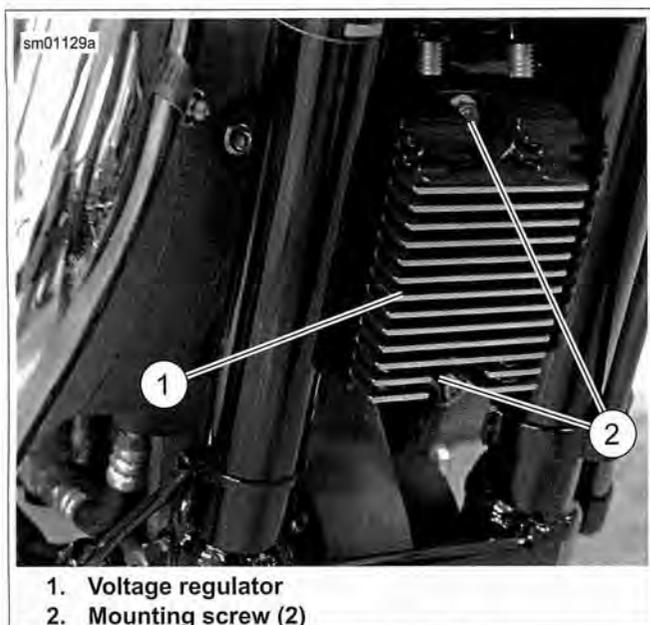

Figure 6-3. Voltage Regulator Location
4. See Figure 6-3. Remove screws (2) from locations at top and bottom of voltage regulator. Remove regulator from vehicle, carefully threading harnesses through opening in regulator mounting bracket.